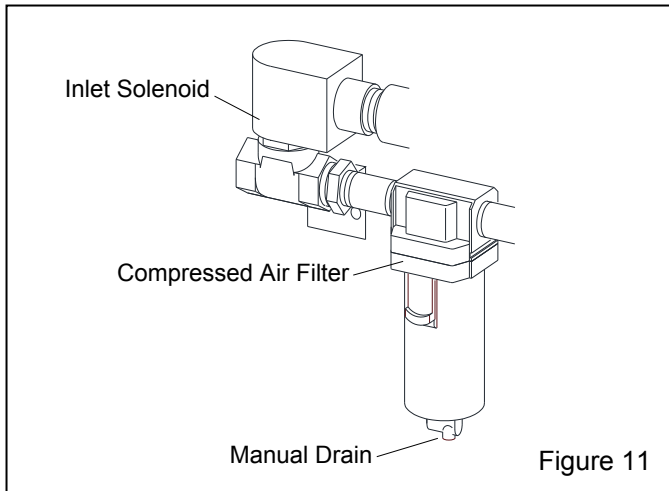

Figure 11
**5.1.3** Drain compressed air filter – Figure 11: The cabinet is equipped with a manual-drain air filter. Open the drain at least daily; if water is present, open periodically during operation. Moist air inhibits the flow of media; if the filter does not remove enough moisture to